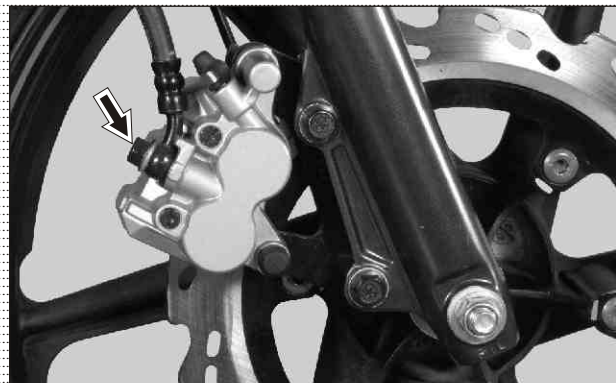

Fig. 6.13
- Remove banjo bolt and take out gaskets. (Fig. 6.13)